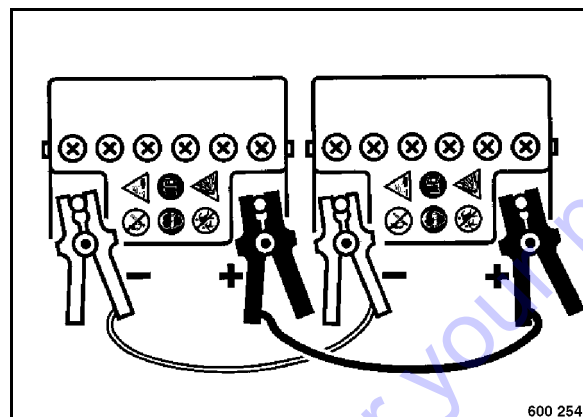

Fig. 22
- Join the plus poles on external battery and starter battery with the jump wire (Fig. 22).